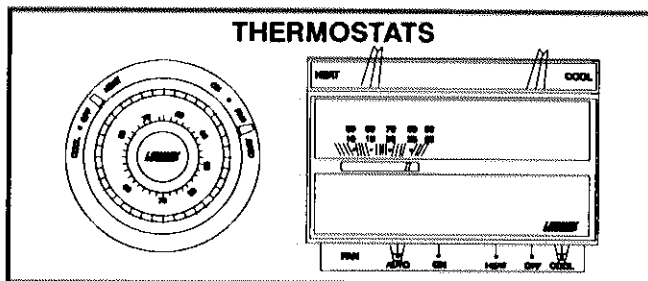

FIGURE 2
- 2— Set thermostat to lowest setting. See figure 2.